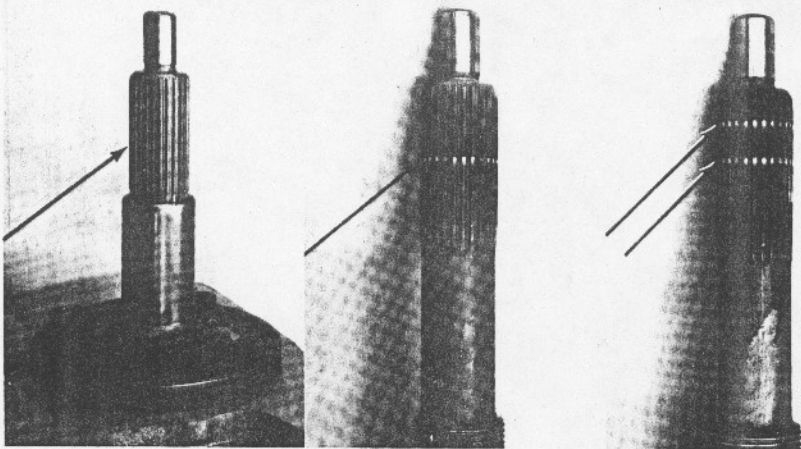

Figure 16 — Illustrated transmission identifying the circumferential grooves on input shaft.
1. Heavy Duty Performance (Close Ratio) transmission uses low helix angle gear set, close ratio gears with 2.20:1 first gear, oil drain plug on gear case and no identifying circumferential grooves on input shaft. (Figure 16)